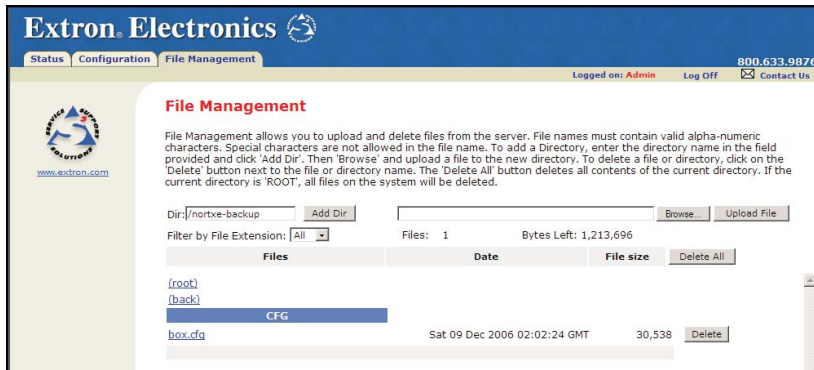

Figure 5-13 — Configuration file box.cfg in the nortxe-backup directory
3. Click on `/nortxe-backup` to view the directory contents. The `box.cfg` file should be displayed in the Files column (figure 5-13).